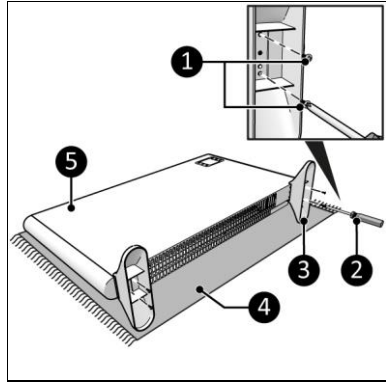

Figure 6
1. Lay the device down on a steady soft surface (Figure 6, pos. 4).
2. Place the pedestals (Figure 6, pos. 3) on both sides of the main body (Figure 6, pos. 5).
3. Screw and tighten the pedestals with a small screw (Figure 6, pos. 1) using a Phillips screwdriver (Figure 6, pos. 2).